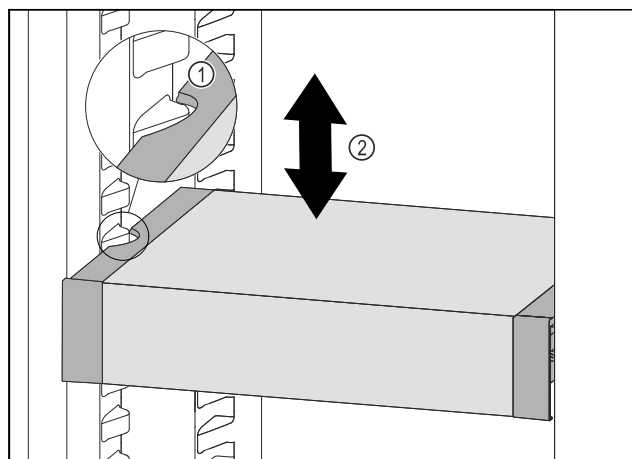

Fig. 141
- Pull VarioSafe forwards until the recesses in the side of the VarioSafe are at the level of the support rib in the refrigerator compartment. Fig. 141 (1)
- Move VarioSafe up or down in the refrigerator compartment until the desired height is reached. Fig. 141 (2)